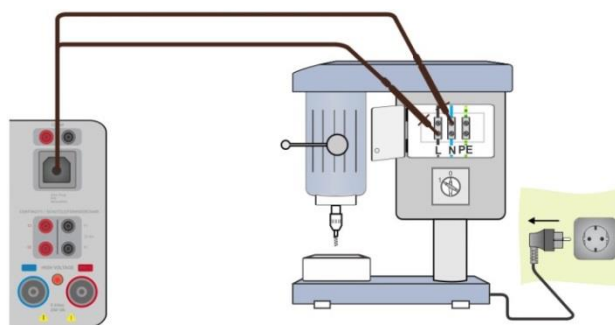

Figure 6.149: Discharging time measurement
- › Connect Residual voltage cable to the instrument and to the device under test (DUT), see **Figure 6.149**.